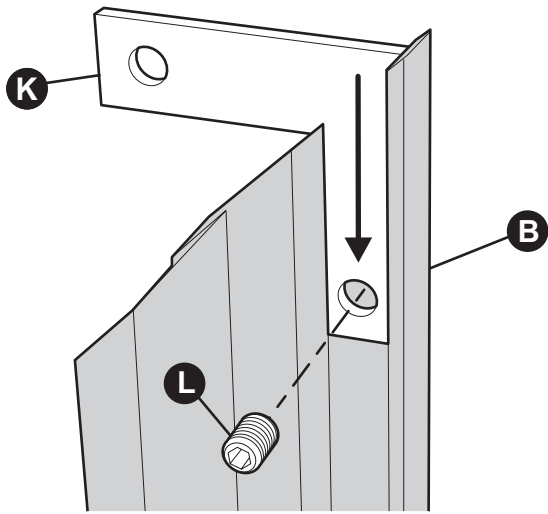

Figure 2
- Attach brackets (K) to the angled end of each side trim (B and C). Gently secure brackets to side trim by tightening set screws (L) only until snug to avoid dimpling the extrusion face. **DO NOT OVERTIGHTEN.** See Figure 2.